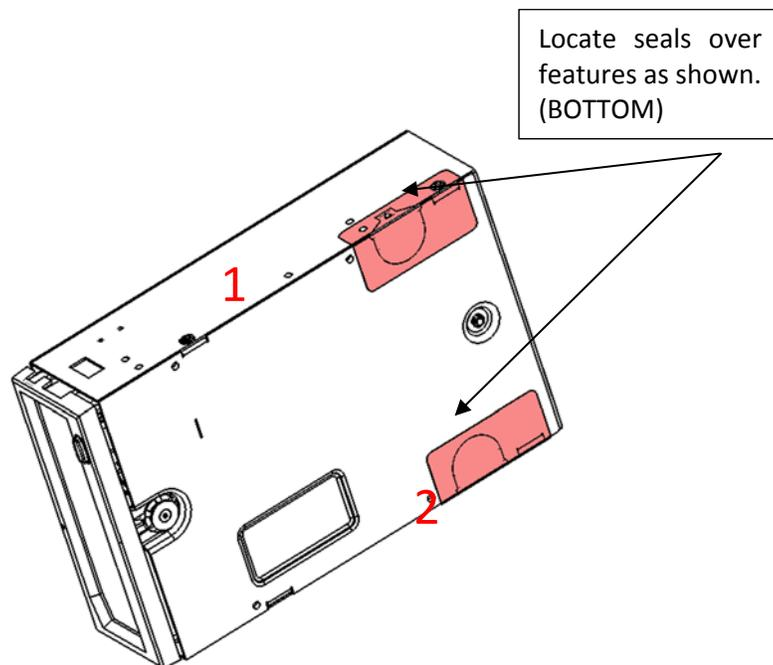

Figure 4: RDX 3.5 Inch Tamper-Evident Seal Locations
5.1 RDX 3.5 Inch (Two (2) Tamper-Evident Seals Required)
The SATA III RDX 3.5" has two (2) tamper-evident seals applied to the bottom of the module (Figure 4).